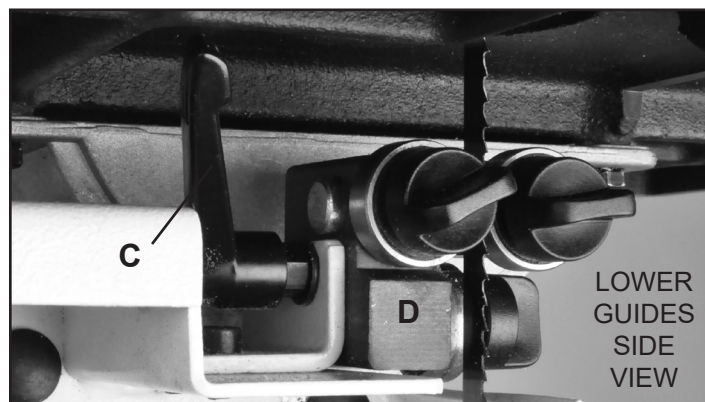

FIGURE 26
2. The guides should be approximately $1/16$ " behind the gullets of the saw blade. If they need to be moved, loosen the spring loaded Lever Handle (#43, FIG. 26, C), located to the left of the Lower Guide Block (#47, D), and move this block that holds the guides so that the guides are properly positioned behind the blade gullets. Re-tighten the lever handle when done.